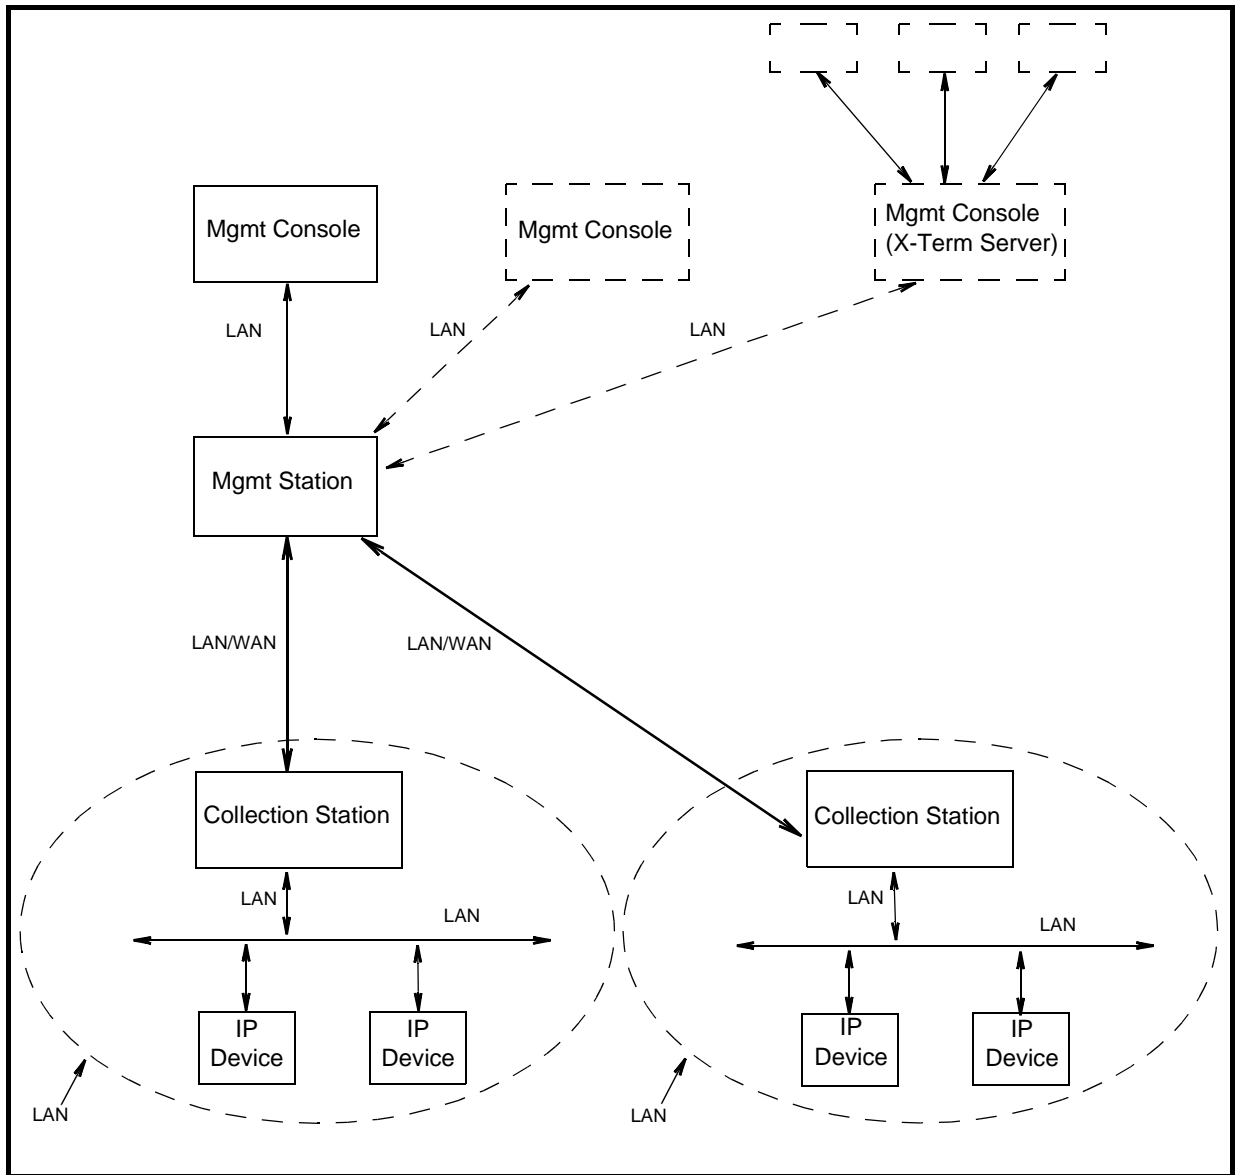

Figure 1: Example of the Centralized Hierarchical Model
- Figure 1 demonstrates a Centralized hierarchical model. Refer to the HP OpenView manual for examples of other models and for choosing the model for your needs.
A collection station discovers nodes and forwards this information to the management station. The collection station also monitors (the netmon process) the nodes in its domain and forwards any traps it receives from the managed node (IP device) to the management station. Depending on the number of managed nodes and network structure, there could be more than one collection station. The collection and management stations periodically synchronize node and topology information. Figure 1 shows two collection stations feeding node and topology information to the management station.
The sequence of events that occur end-to-end from the IP node to the management console (Figures 1 and 2) is as follows: